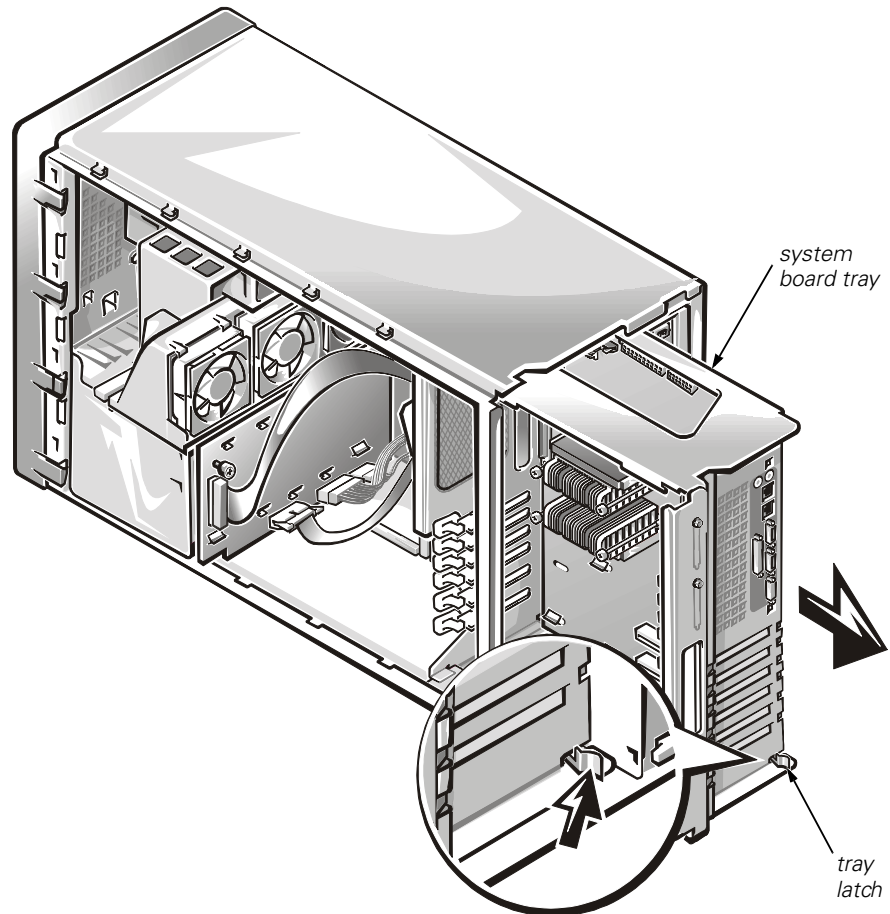

Figure 1-4. Removing the System Board Mounting Tray
- b. To access the system board, release the system-board tray latch at the back lower corner of the tray (see Figure 1-4) and pull the tray open to the first stop position (or *service position*).